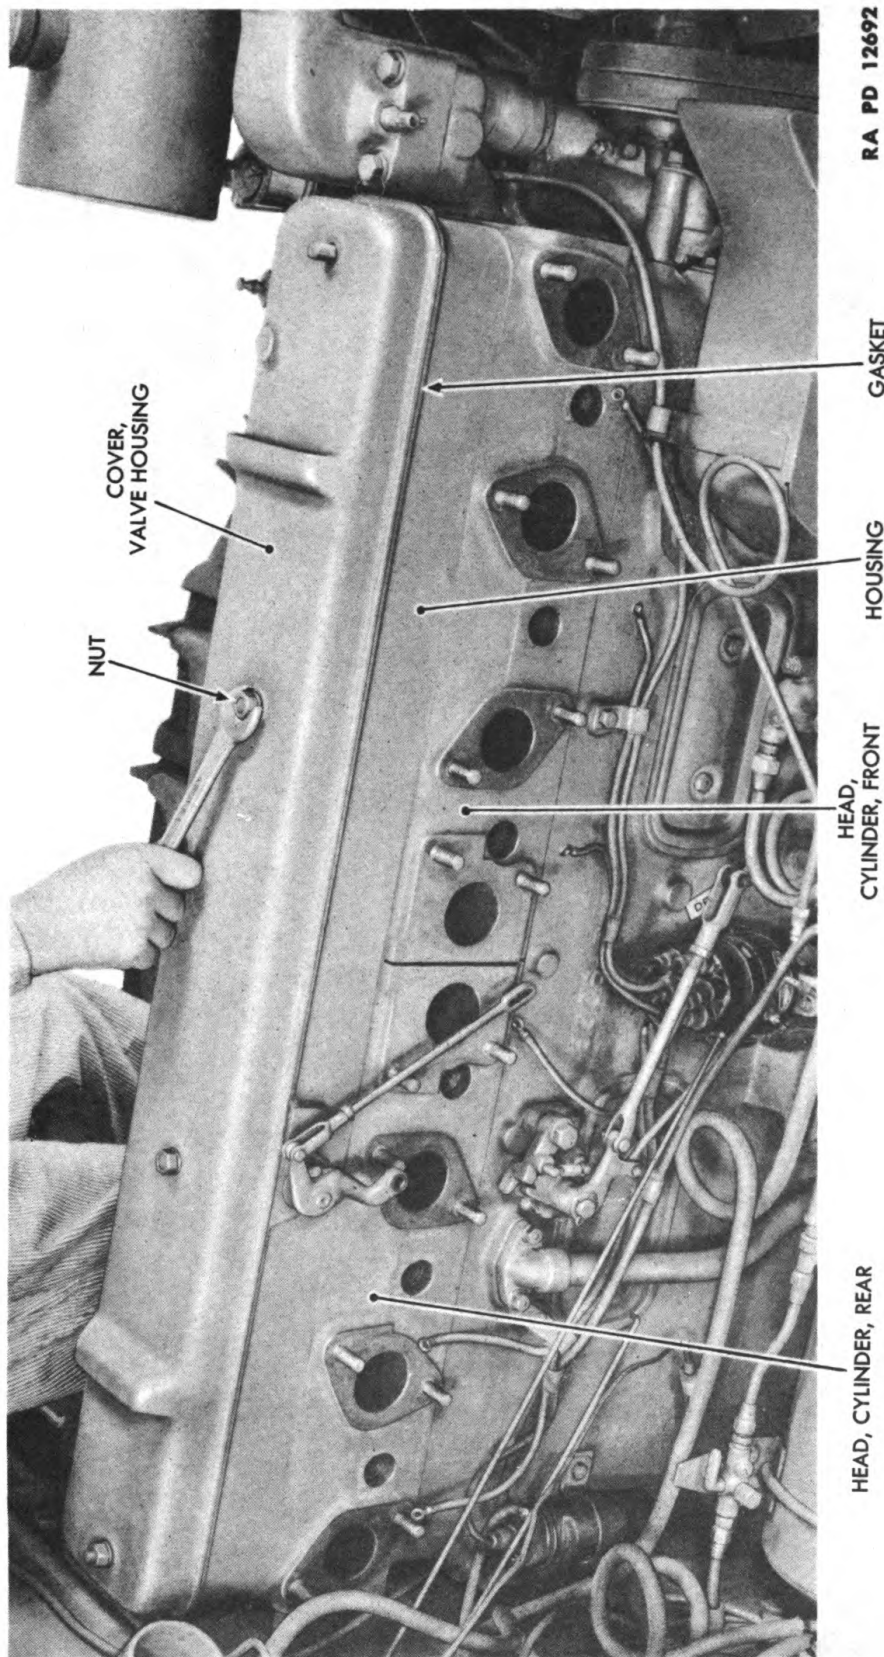

Figure 63—Valve Housing Cover Removal
(13) REMOVE VALVE HOUSING COVER (fig. 63).